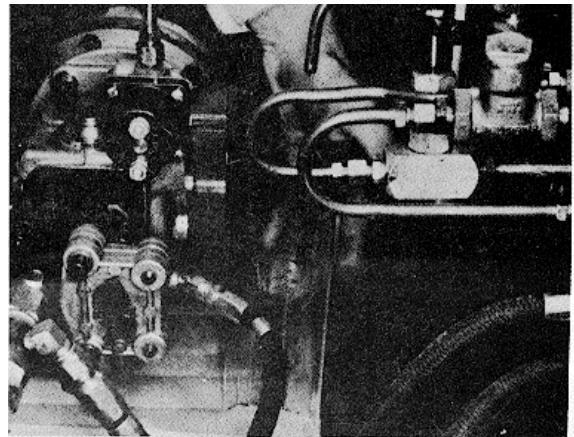

Fig. 5-1-19, F5111. Measure throttle leakage
5. With 200 cc graduate check fuel delivery for one minute. Do not keep at this setting any longer than absolutely necessary. Fig. 5-1-19.